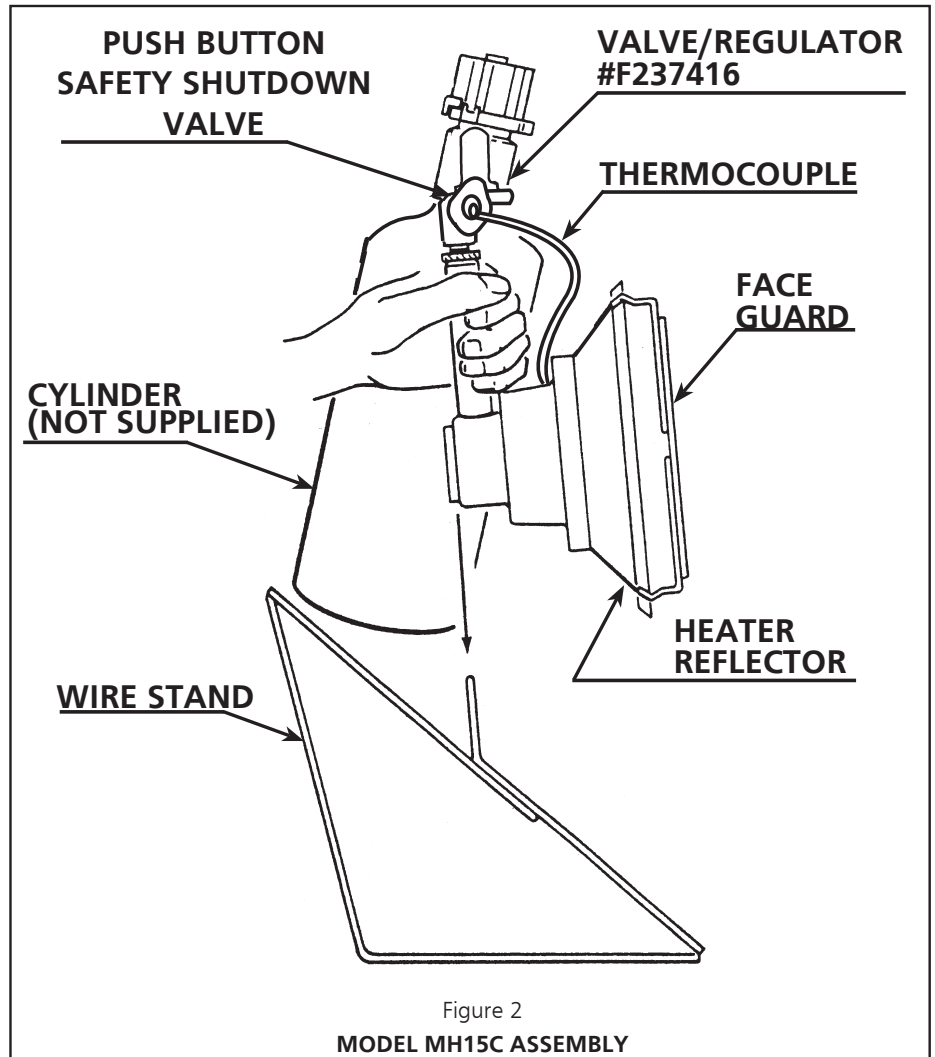

Figure 2
- 2.1 Grasp heater model by cylinder and hold wire stand with other hand. Slide mounting clip on back of heater onto chrome plated wire stand. See Figure 2.
- C. Make sure the heater is firmly placed in the wire stand. (See Figure 2).